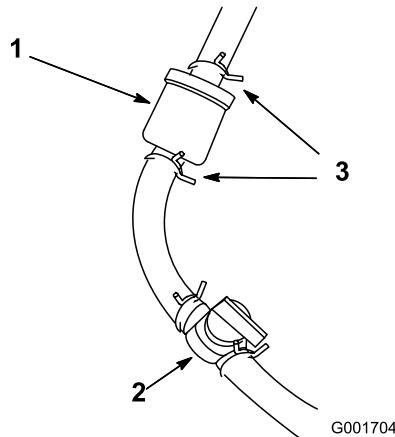

Figure 48
1. Close the fuel-shutoff valve (Figure 48).
2. Place a drain pan under the filter, loosen the hose clamp on the carburetor side of filter, and remove the fuel line from the filter (Figure 48).